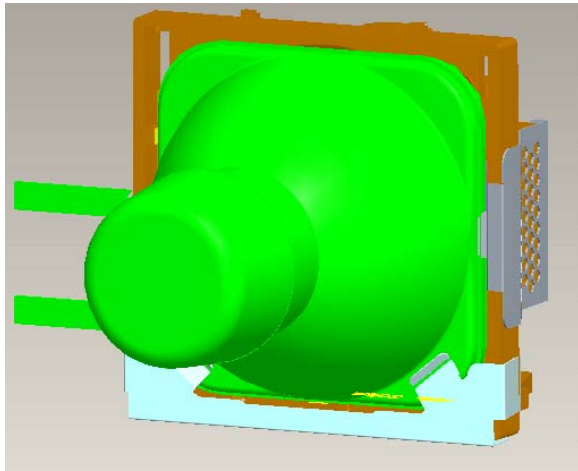

Fig. 1-13
- iii. After assemble Lamp to HLD Lamp, Hook “Clip down Lamp” first then Hook “Clip UP Lamp” on the HLD Lamp to fix Lamp last. (Fig. 1-13 、 1-14)